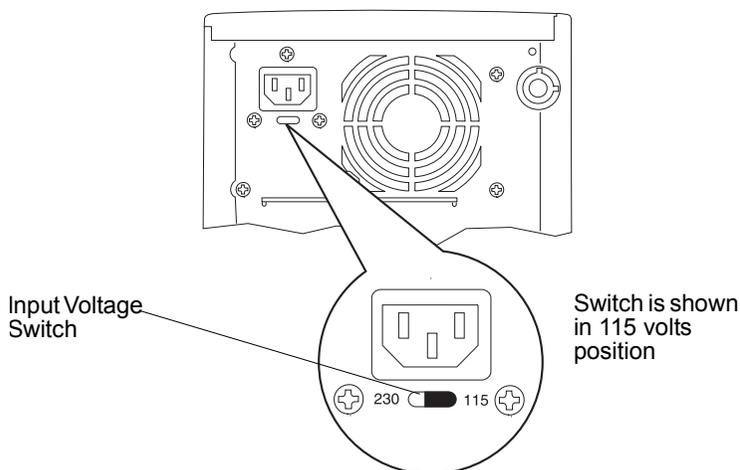

Figure 1-4. Input Voltage Selection Switch
2. Connect the monitor's power cord and the hp server's power cord to a grounded outlet. See Figure 1-4.